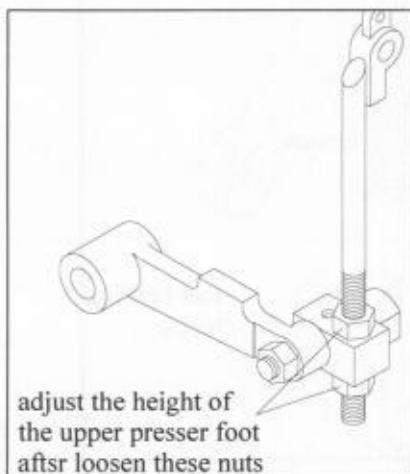
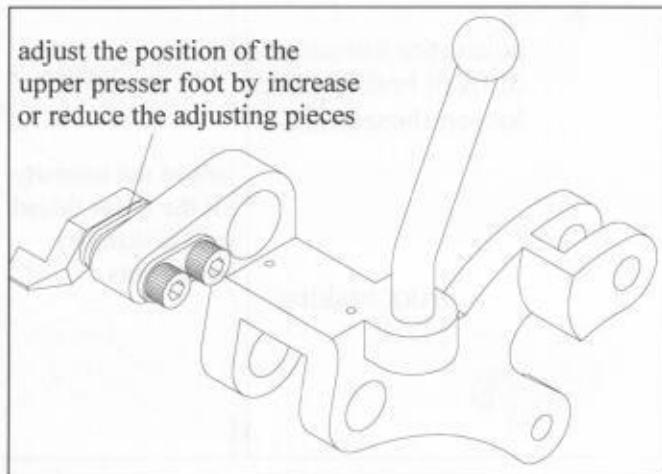

Fig.12
Fig.13
4.8 Adjustment of the upper presser foot(Fig.12, Fig.13):
The height of the upper presser foot can be adjusted by the operation (as shown in Fig.12). The right-and-left position of the upper presser foot can be adjusted by add or reduce the adjusting pieces (as shown in Fig.13).